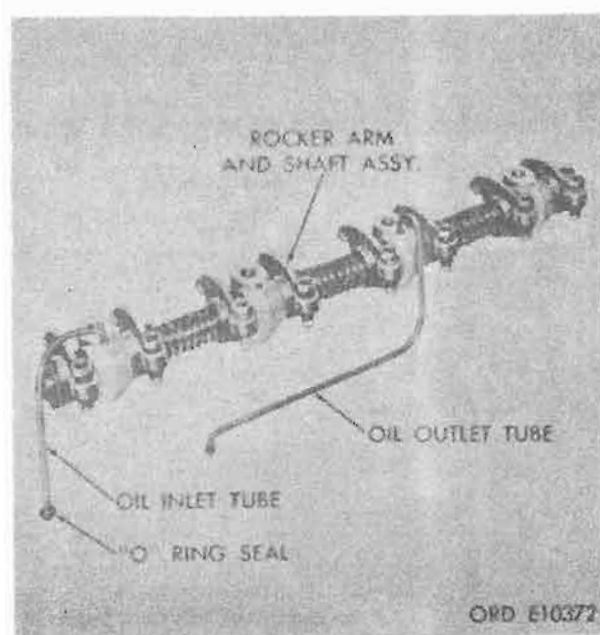

Figure 4-82. Valve rocker arm and shaft assembly with oil outlet and outlet tubes.
e. *Oil Inlet Tube Seal.* Remove O-ring seal from oil inlet tube and discard seal. Refer to figure 4-82.